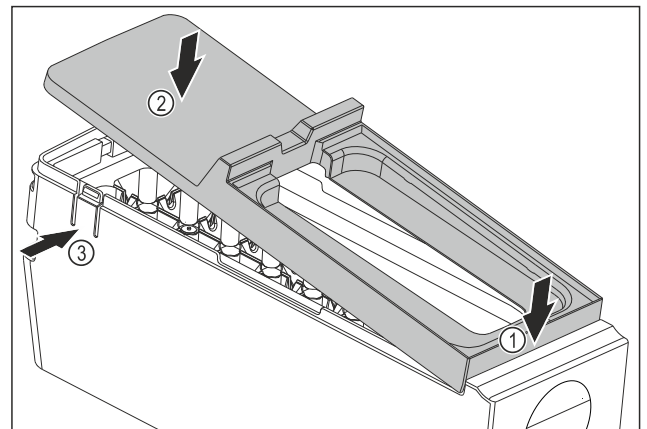

Fig. 77
- ▶ Installing the EasyTwist-Ice body cover: Place the cover on the front. Fig. 77 (1)
- ▶ Lower the cover at the rear. Fig. 77 (2)
- ▷ The cover locks into both tabs Fig. 77 (3) audibly.